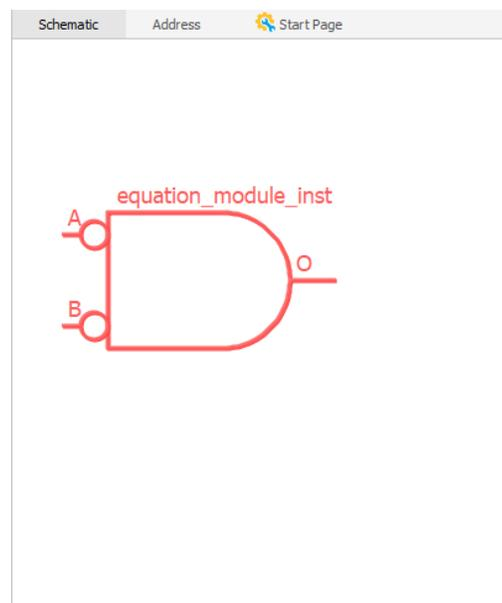

Figure 2.24. Schematic View Shows an Equation Module
- c. Click **OK**. The schematic block for the equation module in red appears in the Schematic view (Figure 2.24).